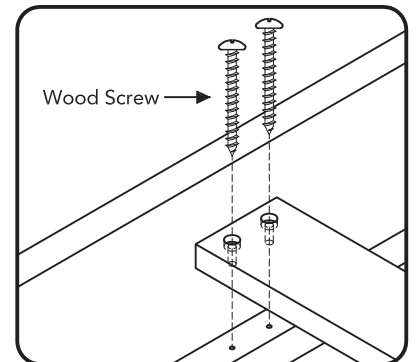

Figure 2
Attach Stretchers (I) to unit with Wood Screws into pre-drilled holes. (See Figure 2)